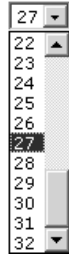

Figure 6-16 — Output selection drop box
1. Click the Output drop box. A drop down scroll box appears (figure 6-16).